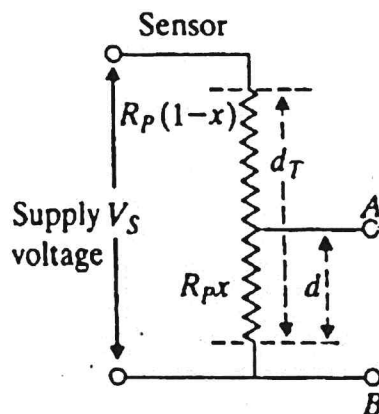

Fig.1
- (c) A linear potentiometric displacement sensor in Fig.1 has a maximum resistance of R_p and a range of 0 to 20mm. If the sensor is supplied with a voltage V_s and connected to a digital voltmeter of input resistance R_L at terminals A and B. Determine the ratio of the output to input voltage as a function of the fractional potentiometric resistance x . [5mks]